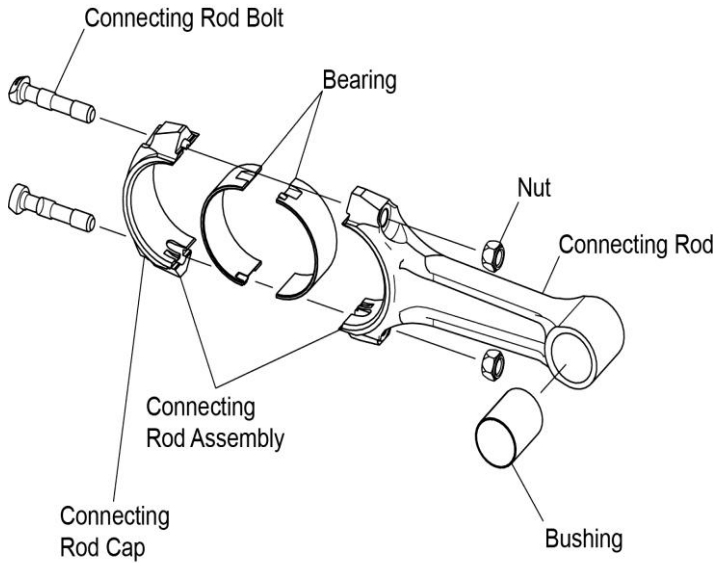

Figure 1
REASON FOR REVISION: Clarified connecting rod bolt selection and installation instructions, added new Figure 1, revised part numbers in Table 1, and added information from obsolete Service Instructions
1. Any time connecting rod bolts and nuts are removed, discard both of the connecting rod bolts and nuts (Figure 1) and replace them with “Service Use Only” connecting rod bolts and nuts for the corresponding connecting rod assembly in Table 1 or Table 2.
NOTICE: Any time connecting rod bolts and nuts are removed, discard both of the connecting rod bolts and nuts (Figure 1) and replace them with “Service Use Only” connecting rod bolts and nuts for the corresponding connecting rod assembly
NOTICE: Any time connecting rod bolts and nuts are removed, discard both of the connecting rod bolts and nuts (Figure 1) and replace them with "Service Use Only" connecting rod bolts and nuts for the corresponding connecting rod assembly.